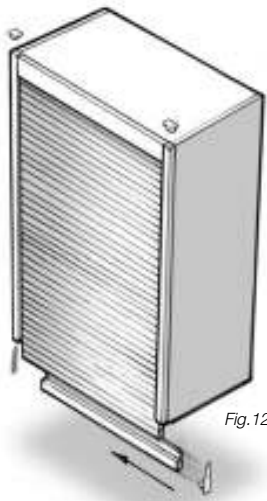

Fig. 12
- Pull the carpet out beyond the bottom of the carcass. Insert the slam-rail. Finish off the left and right sides of the slam-rail with slam-rail glides (Fig. 12).